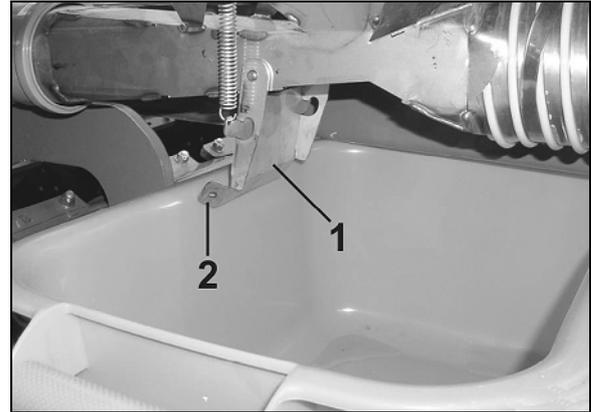

Fig. 97
8. Open the injector sluice flap (Fig. 97/1).
**Risk of contusions on opening and closing the injector sluice flap (Fig. 97/1).**
**Hold the injector sluice flap only by the lug (Fig. 97/2), otherwise there is a danger of injury if the spring-loaded injector sluice flap (Fig. 97/1) snaps shut.**
**Never insert your hand between the injector sluice flap (Fig. 97/1) and the injector sluice.**
10. Close the injector sluice flap (Fig. 97/1) with special care (risk of crushing).
12. Open the injector sluice flap (Fig. 97/1).